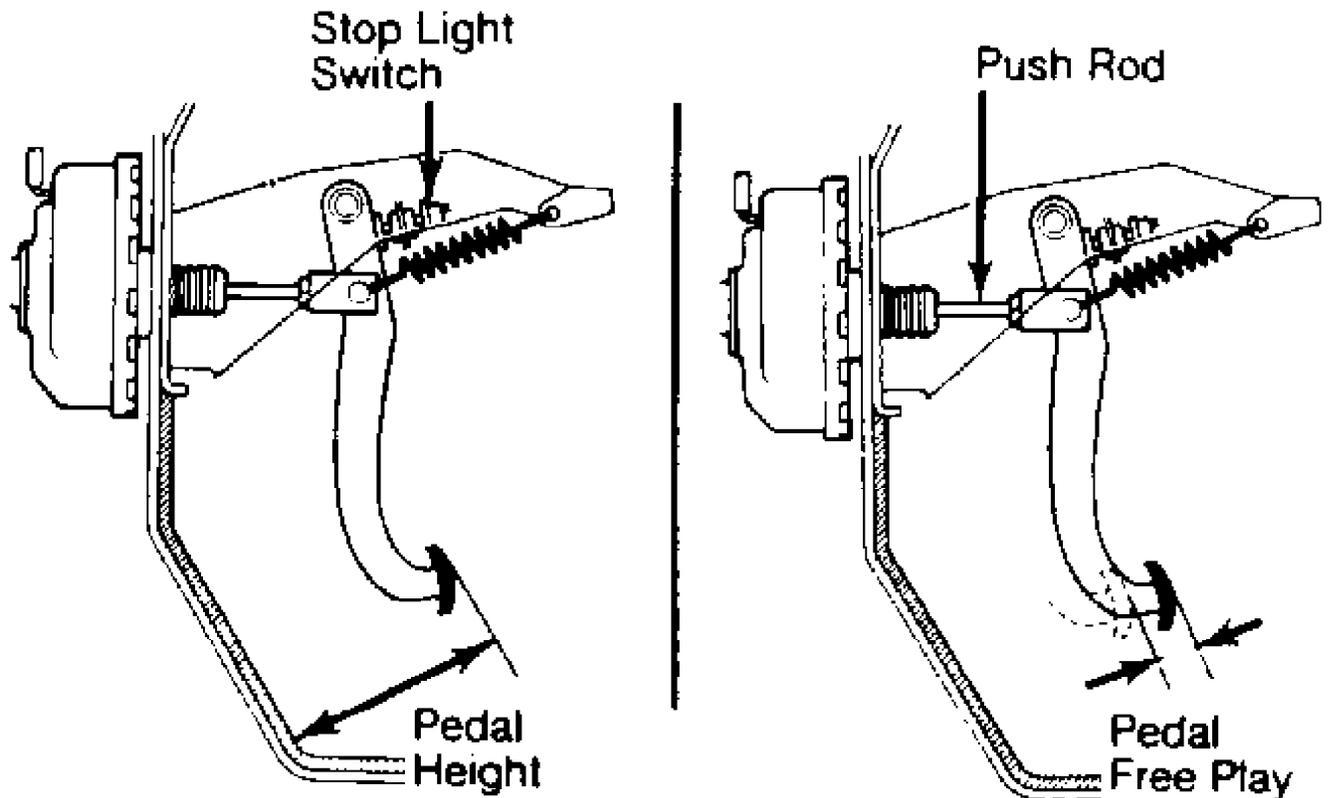

Fig. 1: Measuring Pedal Height & Free Play
1) Brake pedal height is measured from face of pedal pad to asphalt sheet under carpet. To adjust clearance, loosen stoplight switch and lock nut on brake push rod. See Fig. 1.
2) Depress pedal and measure travel until initial resistance is felt. See BRAKE PEDAL FREE PLAY table. If free play is incorrect, adjust by turning push rod. See Fig. 1. Check brake pedal height if free play is adjusted.
Stoplight switch is located above brake pedal. See Fig. 1. To adjust, remove panel and air duct (if necessary). Loosen lock nuts and turn switch until it touches pedal stop. Tighten lock nut. Check pedal height and brake light operation.